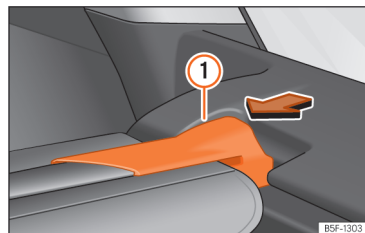

Fig. 178 In the luggage compartment: remove the shelf.
- Press the rear shelf support >>> Fig. 178 **1** in the direction of the arrow.
- Engage the support of the rear shelf >>> Fig. 178 ① into the housing on the other side.